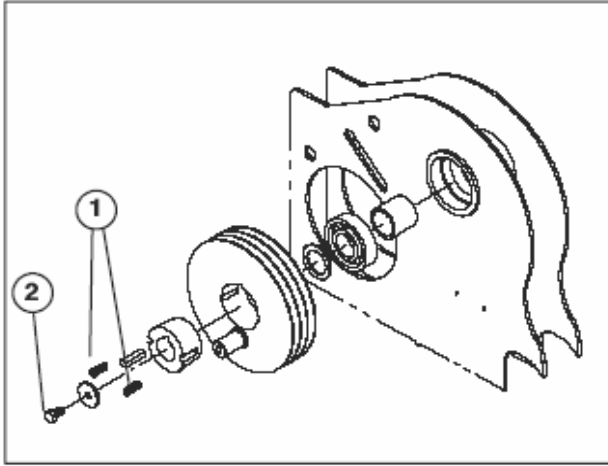

Figure 28
After first 10 hours of operation torque set screws securing taper lock bushings to driven pulleys to 37 ft-lbs (50 Nm) (2 each pulley, Fig. 28).
3. Remove M12 bolt securing the taper lock asm to the opposing crank arm (Fig. 28)